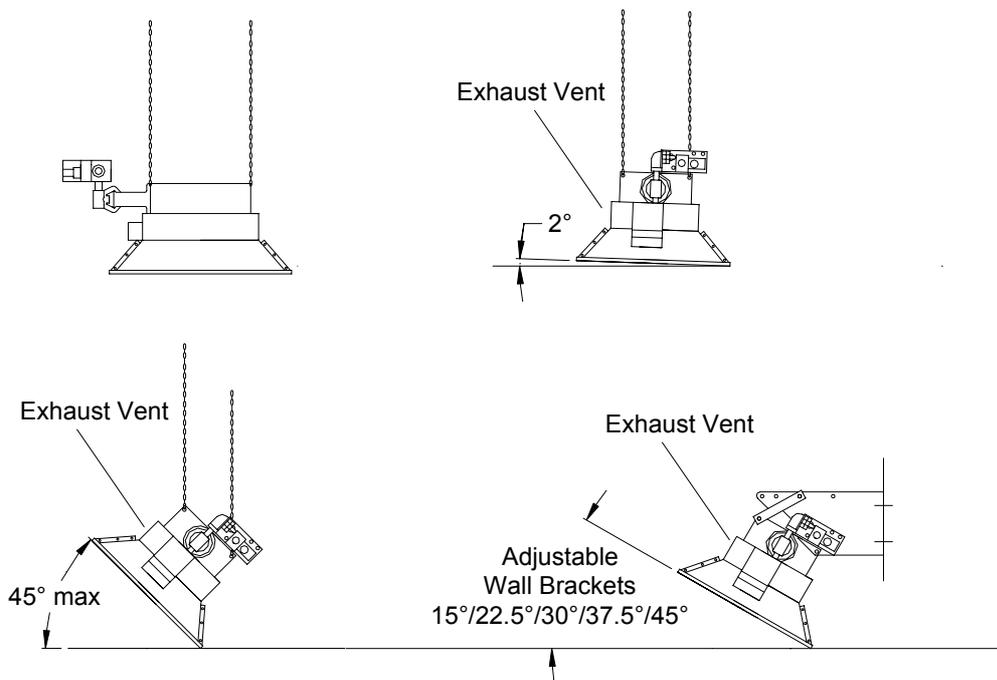

Fig. 1
3.1.3 The appliance must be suspended with its longitudinal axis horizontal, but may have its lateral axis either horizontal or at an angle of up to  $45^\circ$  (maximum) from the horizontal, as shown in Fig. 1. below.